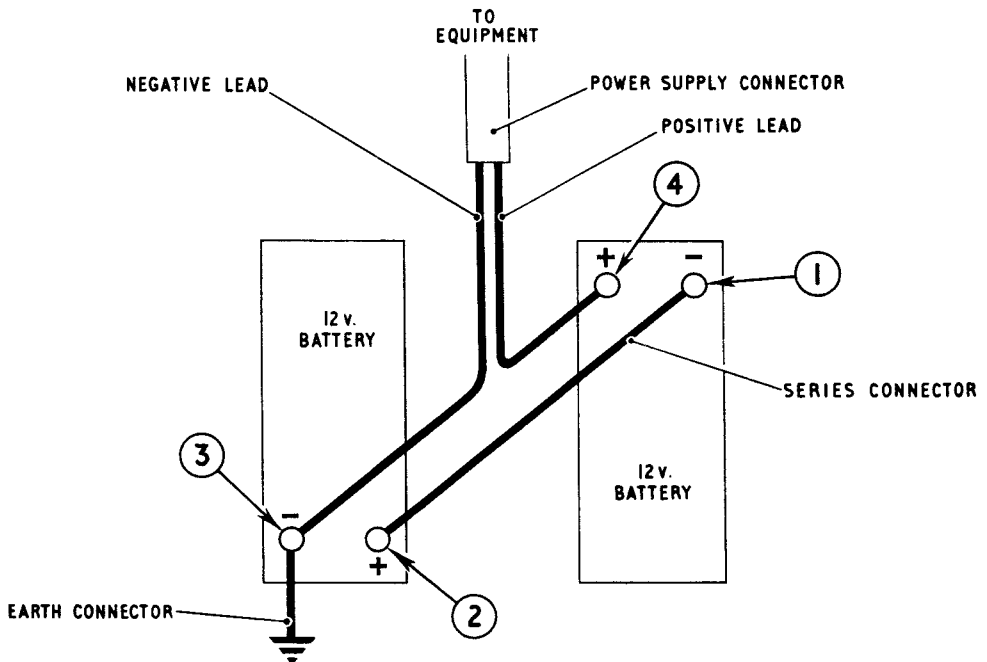

FIG. 51 METHOD OF FITTING CONNECTORS TO TWO BATTERIES
- (a) First fit the series connector (Lead elec. single, 2-ft.6-in.) between the negative terminal on one battery (1 in fig. 51) and the positive terminal on the other battery (2 in fig. 51).
- (b) Fit the free end of the earth connector to the vacant negative terminal (3 in fig. 51).
- (c) Then fit the negative lead of the power supply connector to the same terminal as the earth connector (3 in Fig. 51).
- (d) Finally fit the positive lead of the power supply connector to the vacant positive terminal (4 in fig. 51).